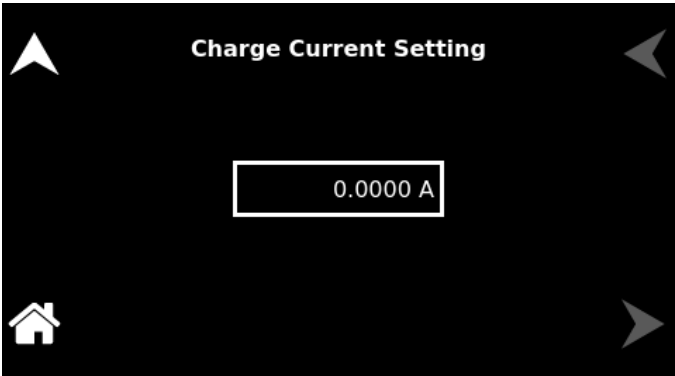

Figure 13-9. Charge Current Setting
**Charge Current**      User can set the charge current value to the current at which the battery under test will be charged. Refer to Figure 13-9.